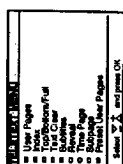

Fig. 41
- 2 Using **[+]** or **[-]**, select the teletext function you want and press **[OK]**. (See Fig. 41.)